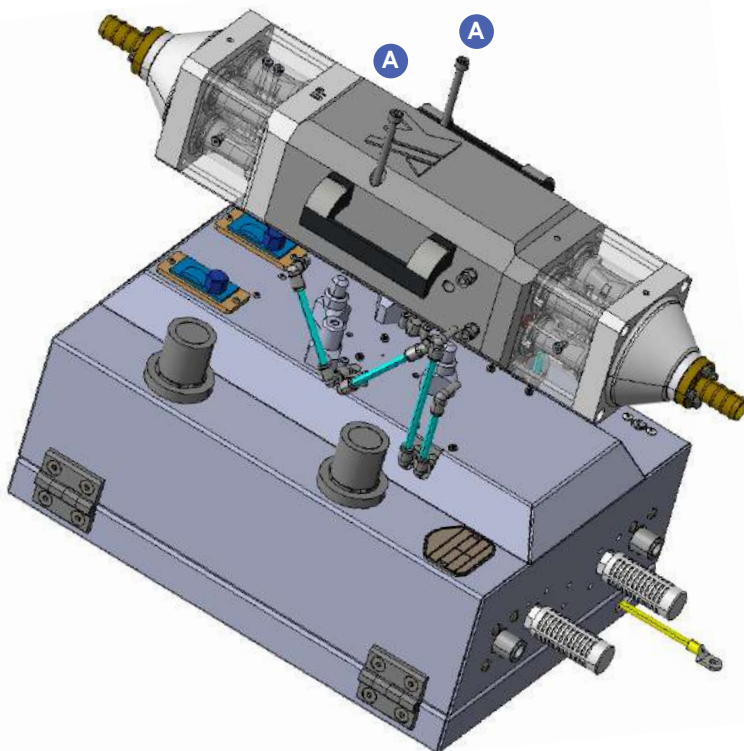

Figure 10
5. See figure 10. Remove the tubes securing the pump assembly to the base.